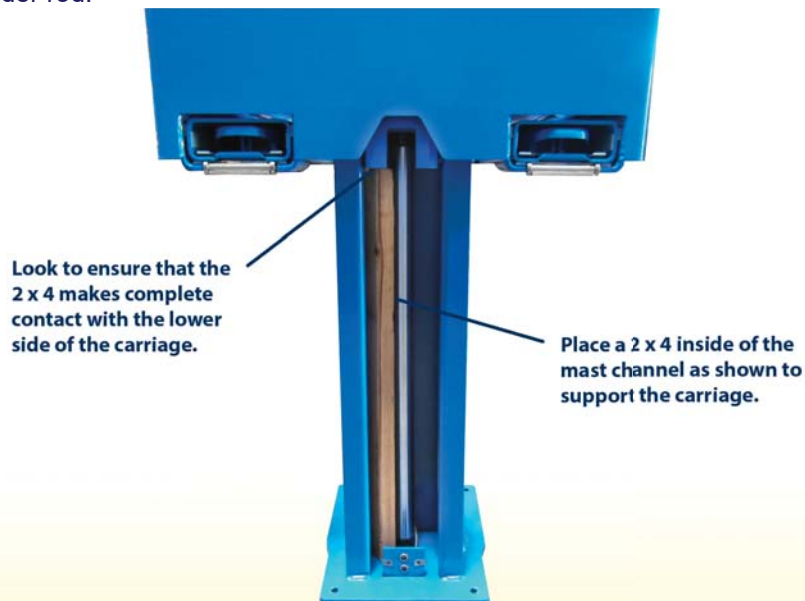

Figure 9 Maintenance Blocking
2. Next, carefully remove the two (2) screws at the bottom of the mast guard that secure the yellow mast guard to the mast.
4. Next, remove the two (2) screws at the top of the mast guard that secure the yellow mast guard to the mast cap. Flex the mast guard away from the mast using care not to permanently bend the guard. Carefully reach inside the mast and disconnect the speaker.
6. Stand clear of the fork carriage and depress the UP button to fully raise the carriage. As shown below in Figure 9, place the prepared 2x4 inside the mast. The board should be positioned behind the sensor plate and slightly in front of the cylinder rod.